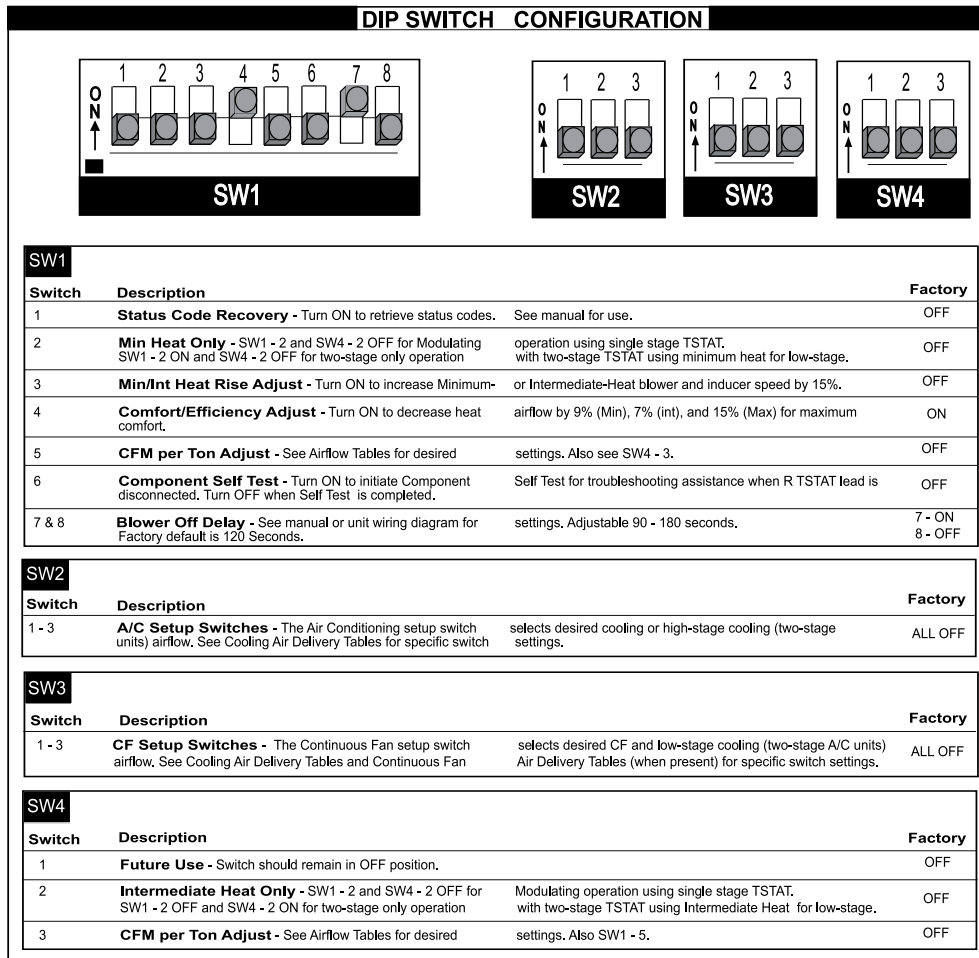

Fig. 58 – Furnace Setup Switches and Description
The Setup Switch locations are shown and described on Fig. 58. The setup switches are also shown on the unit wiring label.
The furnace control has eight (8) setup switches that may be set to meet the application requirements. Refer to Fig. 58 and the Adjustments section for setup switch configurations. To set these setup switches for the appropriate requirement:
The air conditioning setup switches are used to match furnace airflow to required cooling airflow or high stage cooling airflow when a two-stage outdoor unit is used. Refer to Fig. 58 and the Adjustments section for setup switch configurations.
The furnace control has three (3) additional setup switches labeled SW4. Setup switch SW4-2 can be used to lock the furnace into intermediate heat. When setup switch SW4-2 is ON it will over ride setup switch SW1-2 if it is ON. SW4-3 is used to adjust airflow. Refer to Fig. 58 and the Adjustments section for setup switch configurations. To activate setup switch SW4-2 and SW4-3: